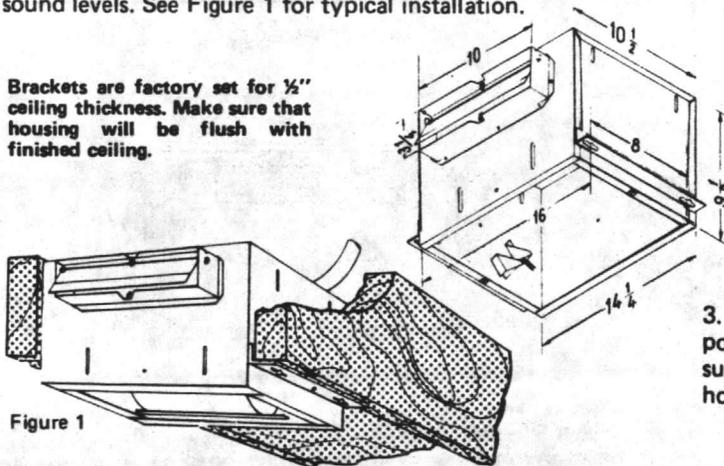

Figure 1
1. **Provide Frame** - This unit is designed to fit within joists on 16" centers. If ceiling joists are on larger centers, frame in housing location. Provide a solid frame to assure lowest sound levels. See Figure 1 for typical installation.